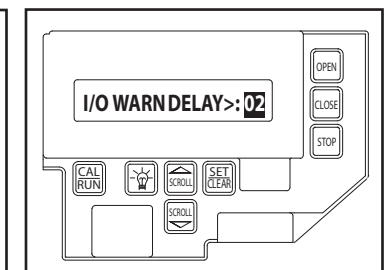

Fig. 5D I/O WARN Delay
9. Press SCROLL ▼ key again to shift to "I/O WARN DELAY > 02." (Fig. 5D).